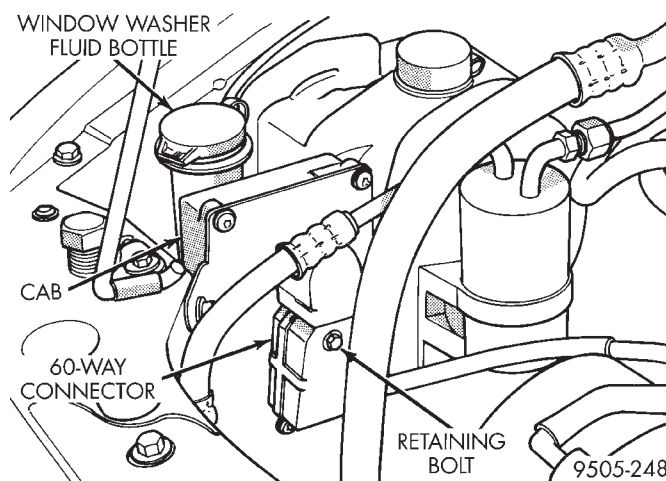
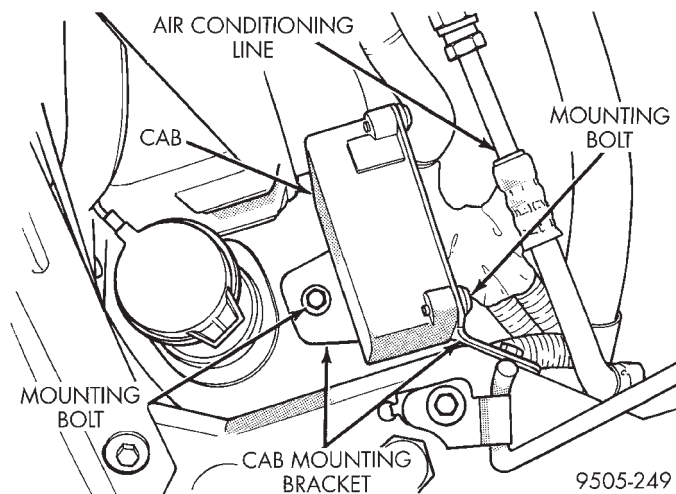

Fig. 30 CAB 60-Way Wiring Harness Connector
Fig. 31 CAB Bracket To Engine Compartment Mounting
(1) Turn vehicle ignition off.
(2) Disconnect the wiring harness 60 way connector (Fig. 30) from the Controller Antilock Brake Module (CAB). **VERIFY THAT THE VEHICLE IGNITION IS OFF BEFORE REMOVING THE 60 WAY CONNECTOR.**
(3) Remove the 2 bolts (Fig. 31) attaching the CAB mounting bracket to inner fender and front upper crossmember.
(1) Install the CAB and the mounting bracket assembled, on the right inner fender of the vehicle. (Fig. 31).
(2) Install the 2 bolts mounting the CAB bracket to the vehicle. Tighten both mounting bolts to a torque of 9 N·m (75 in. lbs.).
(3) Install 60-way wiring harness connector (Fig. 30) into the CAB 60-way connector by hand until seated as far as possible. Then use CAB connector retaining bolt (Fig. 30) to fully seat wiring harness connector into the CAB.
(4) Tighten the 60-way connector retaining bolt (Fig. 30) to a torque of 4 N·m (35 in. lbs.).